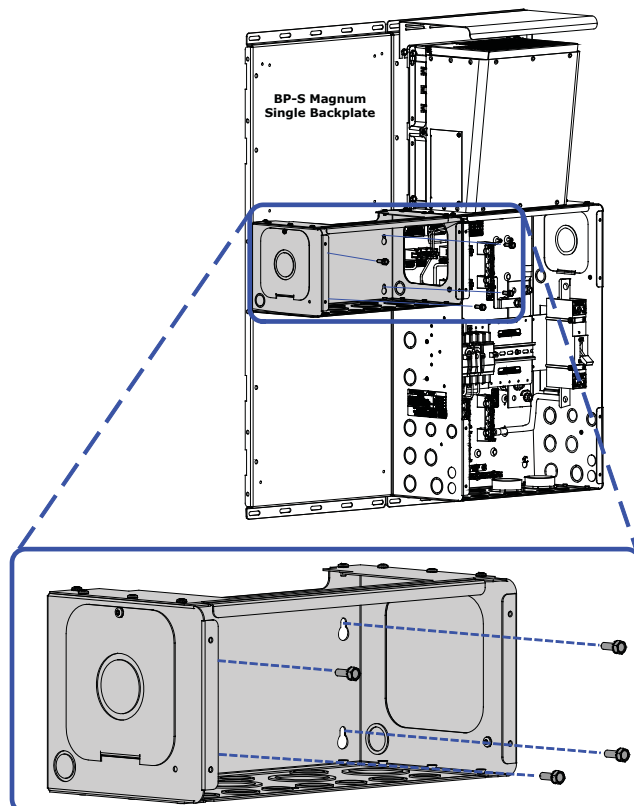

Figure 3-6, Mounting the MPX to a Backplate/Wall
2. Hang the MP enclosure and attached MPX onto the eight bolts using each unit's keyhole slots (see Figure 3-6).